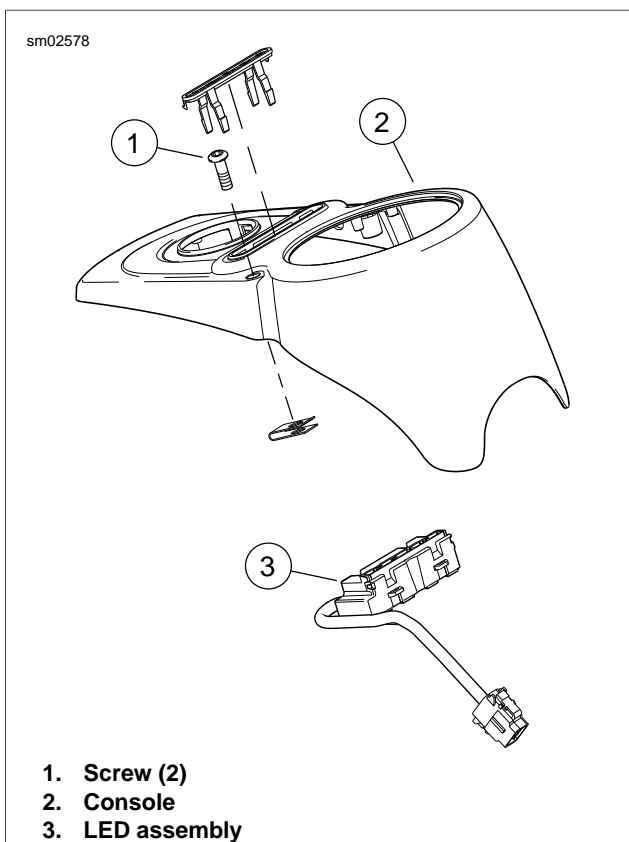
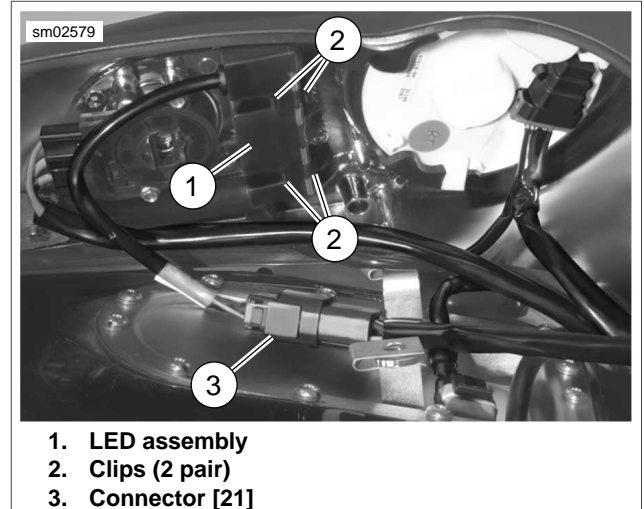

Figure 8-55. Indicator Lamp Assembly: FXDWG, FXDC, FXDF
Figure 8-56. FXDWG, FXDC, FXDF Connector [21]
1. See Figure 8-55. Remove screws (1) and raise console (2) from fuel tank. Place shop rags on tank and flip console over to expose underside.
2. See Figure 8-56. Squeeze clips together (2) and gently pry LED assembly (1) out of console from the side with a screwdriver.
3. Disconnect 8-place connector (3) [21] from LED assembly.
- See Figure 8-56. Install LED assembly (1) into console. Make sure clips (2) engage to secure assembly in place.
2. Connect connector (3) [21] to main wiring harness.
3. See Figure 8-55. Place console (2) in position. Tighten screws (1) to 18-24 **in-lbs** (2.0-2.7 Nm).